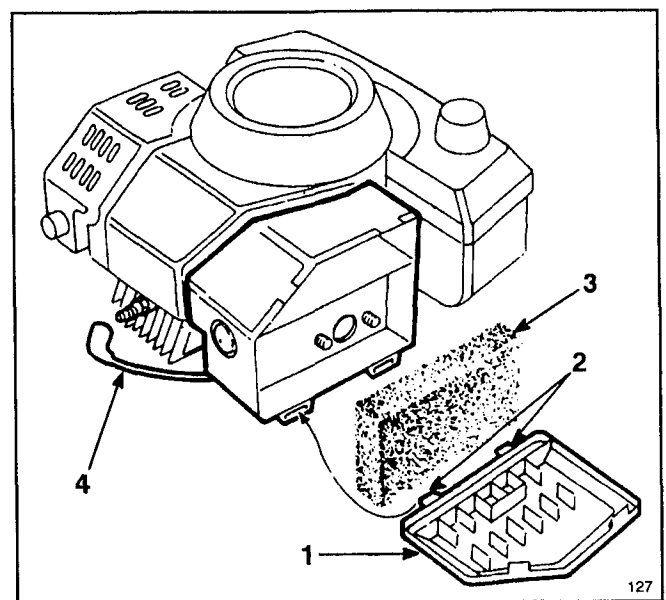

Figure 13
1. Stop engine and pull wire off spark plug (Fig. 13).
2. Lift tabs at top of air cleaner cover and pivot cover down (Fig. 13). Clean cover thoroughly.
3. If foam element is dirty, remove it from air cleaner body (Fig. 13). Clean thoroughly.
1. Stop engine and wait for it to cool. Pull wire off spark plug (Fig. 13).